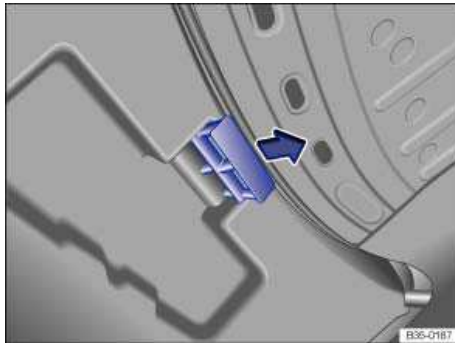

Fig. 179 Inside the luggage compartment: Unlocking luggage compartment lid.
□ Locate the release handle in the luggage compartment lid ⇒ fig. 179.
□ Pull the handle down in the direction of the arrow ⇒ fig. 179 to unlock and open the luggage compartment.